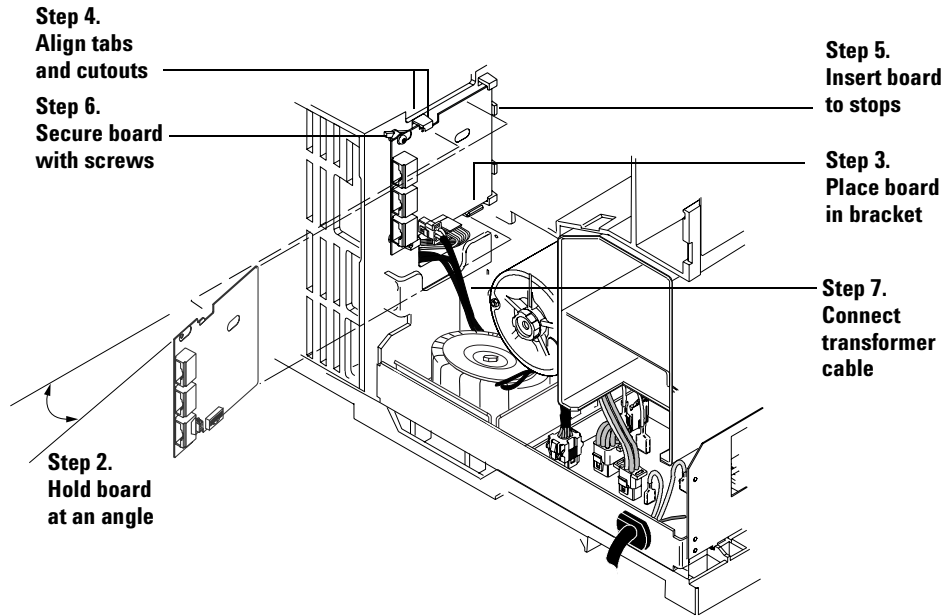
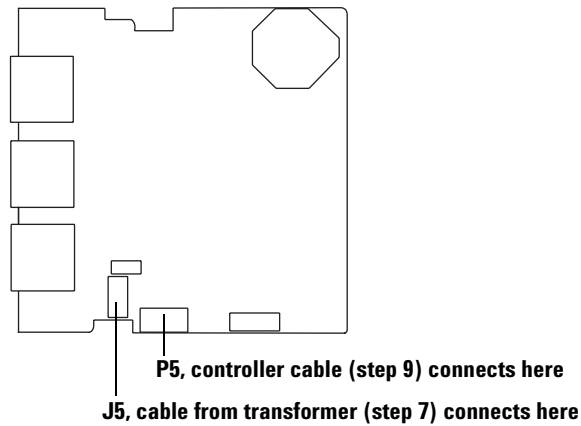
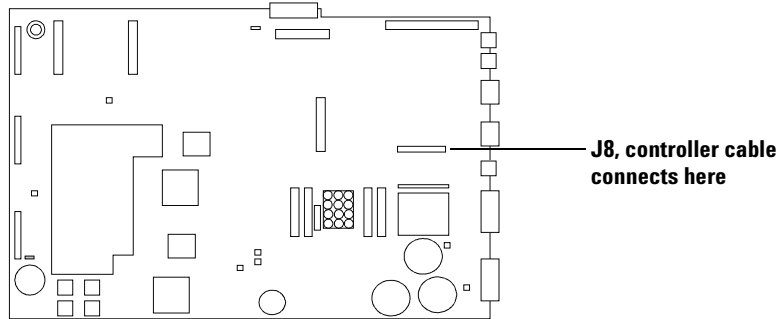

Figure 30 Installing the ALS interface board
Figure 31 ALS interface connectors
Figure 33 GC main board
- 2 Hold the board upright and slightly angled as shown in Figure 30.
- 6** Secure the board to the chassis using two screws. The board should not be stressed or bowed against the locking tab. See Figure 30.
- 7** Locate the 2-wire cable leading from the transformer and connect it to the ALS Interface board at J5. See Figure 30 and Figure 31.
- 9 Connect the Controller PCB Cable, part no. G2612-60510, to the main board at J8 and to the ALS Interface board at P5. Route the cable through the cutout in the main board. See Figure 31 and Figure 33.